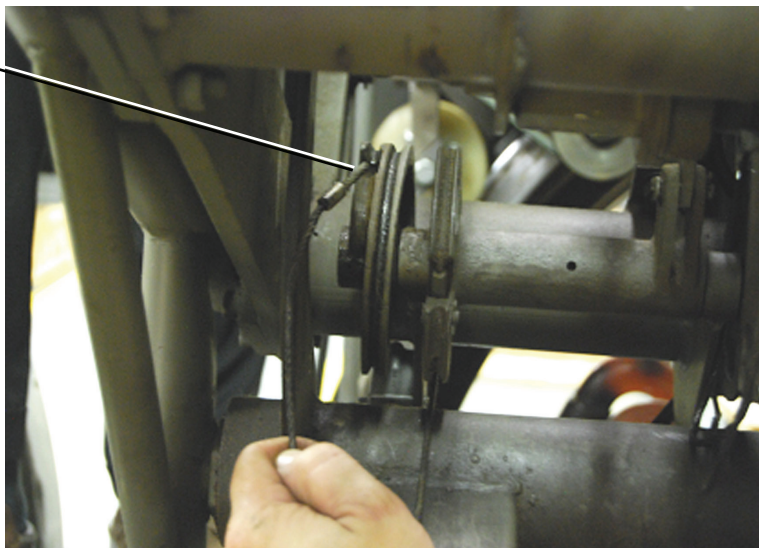

Figure 6
6. With the moving deck and scissor cable loose, remove “X” washers and “X” washer pins from the upper control pulleys, and remove the upper deck cable from the upper control pulley. Refer to *Figure 6*.